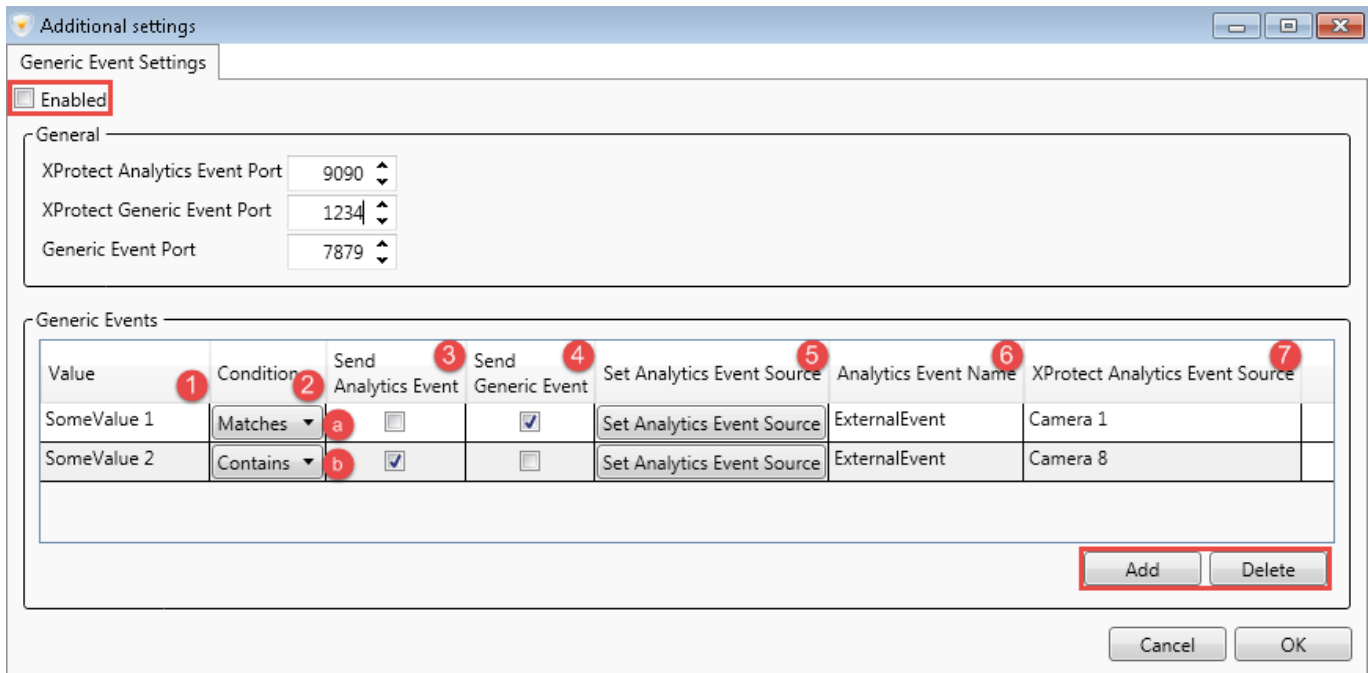

Figure 12: Receiving generic events within Analytic Server module
Select **Enabled** checkbox to activate this feature (Fig. 12).
3. **Send Analytics Event** — checkbox enables events to be redirected to **XProtect** system if they meet the condition. The event to be redirected is specified in **Analytics Event Name** field (Fig. 12, 6). After the **Set Analytics Event Source** button (Fig.12, 5) is used to select it, the name of the device sending the event is to be specified in **XProtect Analytics Event Source** field (Fig. 12, 7).